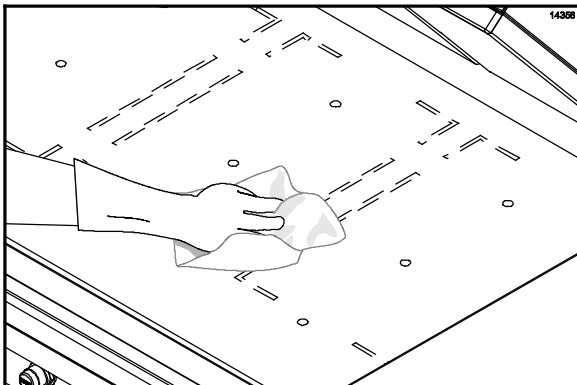

Figure 108
40. Pour a small amount of lukewarm water on a clean, sanitizer-soaked grill cloth held over the bottom grill surface and wipe off the residue. (See Figure 108.)